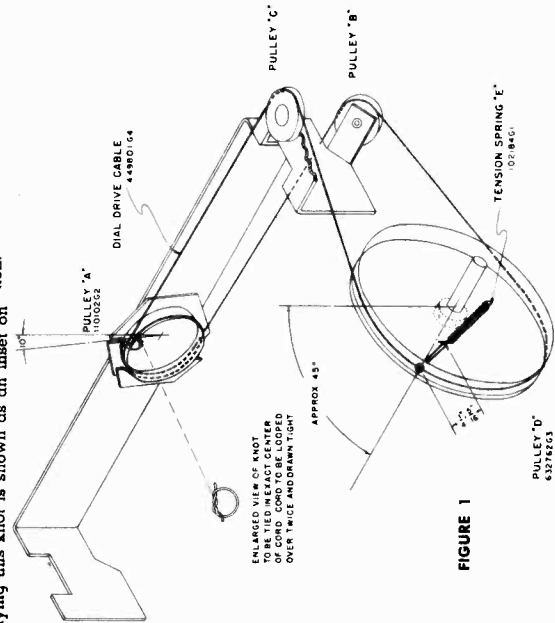

FIGURE 1
Rotate the brass pulley designated "A" in Figure 1 until the dial pointer strikes the stop at the high frequency end of the dial calibration. In this condition the slot in pulley "A" should be approximately ten degrees to the left of being vertical—see Figure 1. If the slot in the pulley is in some other position under the above mentioned conditions, the pointer set screw is probably loose and has allowed the pointer pulley "D" temporarily.
Completely unmesh the condenser gang and check the location of the hole or slot in pulley "D". If this hole is not approximately 45 degrees back from vertical as shown on Figure 1, loosen the two No. 6 Allen set screws in the hub of pulley "D" and slip the pulley on its shaft (while holding the condenser gang unmeshed) until the specified adjustment is obtained; then tighten one of the set screws securely. It will be shown later that this is a temporary setting. Next, tie a double knot in the exact center of a 25-inch length of dial cable and fold the cable back on itself so that the knot is at one end. The correct method for tying this knot is shown as an inset on
Figure 1. Grasp the cable near the knotted end and slide it into the pulley slot so that the knot is against the inside rim of the pulley as shown in the sketch. The piece of cable nearest the dial frame should be wound in the direction shown for one-half turn; then over the lower pulley "B" around the bottom of the large pulley "D" and into the hole. Pull the cable taut and wrap the end around the small hook on pulley "D" temporarily.
1. Remove the signal generator lead from the 6SA7 grid and connect it to the radio antenna terminal through the .00025 mfd. capacitor. The ANT-LOOP switch (89) must be in the ANT. setting.
2. Check the tuning dial pointer adjustment. When the plates of the tuning condenser are completely meshed, the dial pointer must be in line with the last calibration mark at the low frequency end of the dial. If it is not, loosen the set screws in the hub of pulley "D" shown on Figure 1 and make the necessary adjustment.